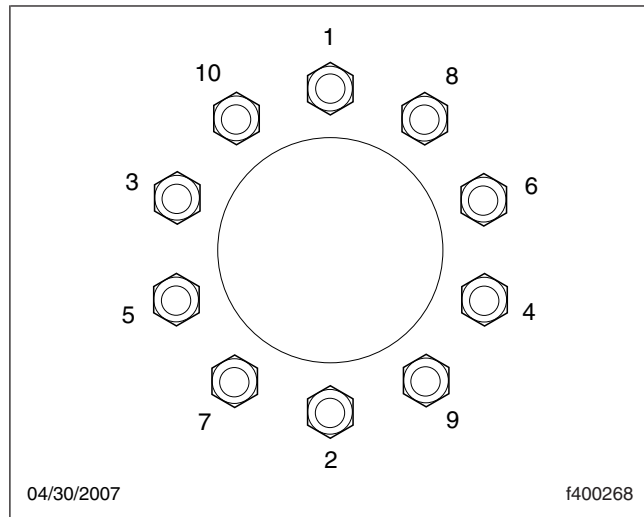

Fig. 20.3, Tightening Pattern, 10-Hole Wheels
- 4.3 Make sure all wheel nuts are tightened. If tightening is necessary, use the tightening pattern in **Fig. 20.3** to initially tighten the